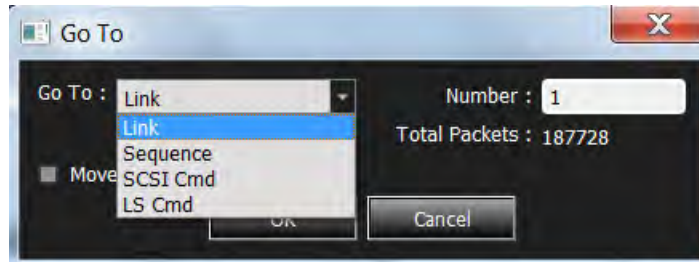

Figure 5.154: Go To Event – Link, Sequence, SCSI Cmd, LS Cmd
Selecting the large white down arrow/Go to icon  will pop up the Go to Event dialog (see Figure 5.154).
- ❑ Go to Event: Choose which type of Event and Number to go to (see Figure 5.154).